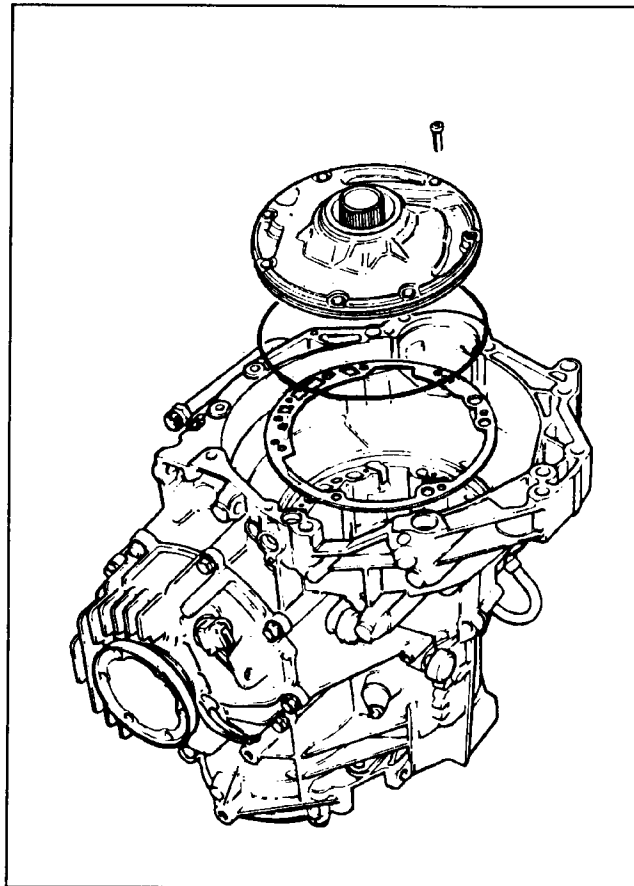

Figure 161
31. Install a new pump gasket and O-ring on the pump, and set the pump assembly into the case (See Figure 161.